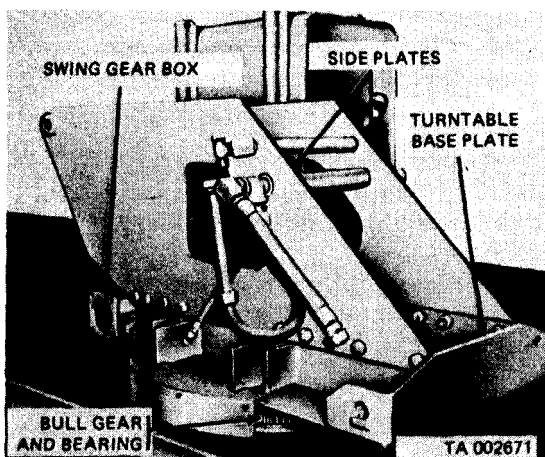

Figure 555. Turntable and swinger drive assembly.
a. *General.* The turntable and swing drive consist of the turntable base plate with bull gear bearing, side plates, and swing gearbox as shown in figure 555.
- (1) Remove boom assembly (para 406).
- (2) Remove hydraulic oil reservoir tank (para 400).
- (3) Remove boom elevating cylinders (para 404).
- (4) Remove operator's station (para 413).
- (5) Remove swing drive gearbox (para 402).
- (6) Remove hydraulic pump (para 401).
- (7) Remove hydraulic pump support (para 410).
- (8) Remove side plates from turntable base plate as shown in figure 555.
(3) Install side plates to turntable base plate as shown in figure 555.
(4) Install hydraulic pump support (para 410) and install hydraulic pump (para 401).
(5) Install swing drive gearbox (para 402).
(6) Install operator's station (para 413), the boom elevating cylinders (para 404).